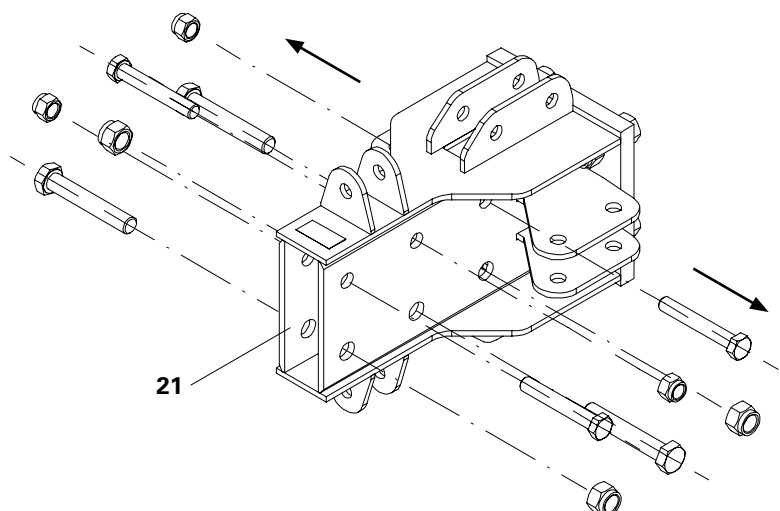

Fig. B2.03
1. Remove all 6 bolt connections from the Prop Connector VST 48 (21). (Fig. B2.03)